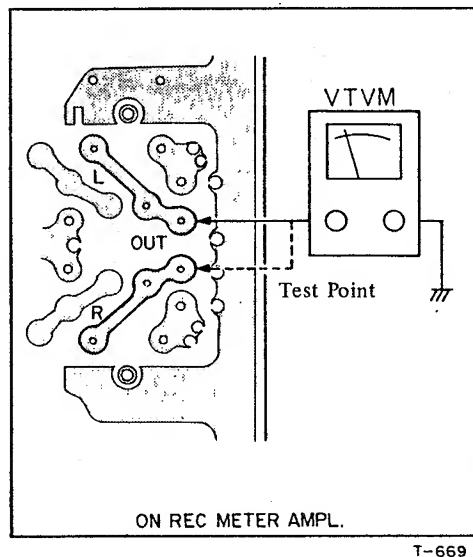

Fig. 8-8 Bias Trap Test Point
2. Connect a VTVM or oscilloscope from ground to the junction of L-302 and C-312 (L-ch) and from ground to the junction of L-304 and C-330 (R-ch). See Fig. 8-8.